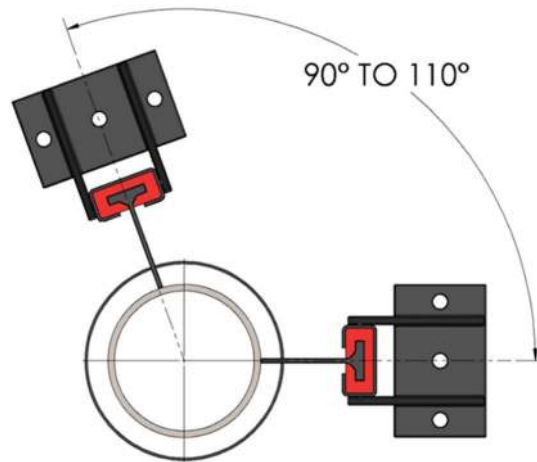

Figure 4. 5" to 10" Installation Detail.
7. For pipe sizes 5" through 10", two PGQs are required per location as shown in Figure 4. For 12" and larger applications, consult Metraflex.